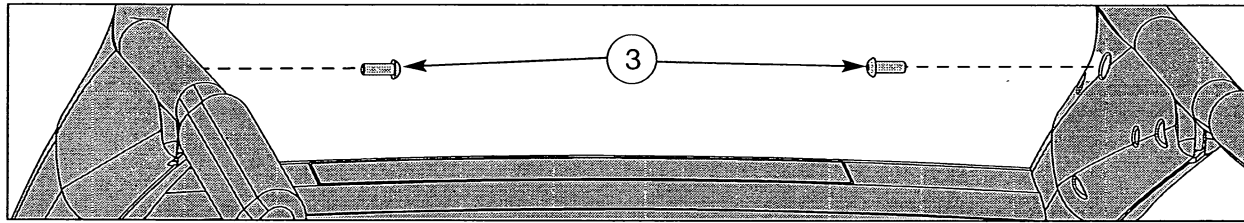

Figure 7
- A. Using the hex key provided, secure the handrail with two 5-16-18 x 7-8 screws. See Figure 7. **NOTE:** You may need to lift the console slightly to line up the holes.